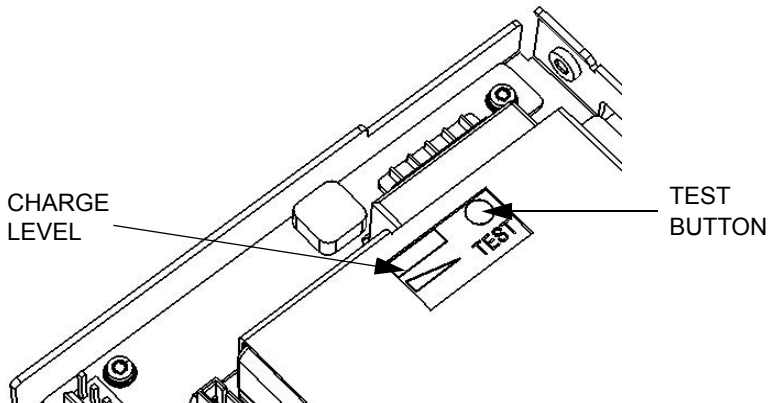

Figure 2-13. Test Button and Charge Indicator
- 7** On the Battery assembly, push and hold the white test button on the battery while observing the charge-level indicator. (See Figure 2-13). The charge level should be at least 25% to be functional. If the battery has been installed for over 24 hours with counter AC power connected the entire time, the charge level should be 75 to 100%. (Typically at least 25% after 1 hour charge.)